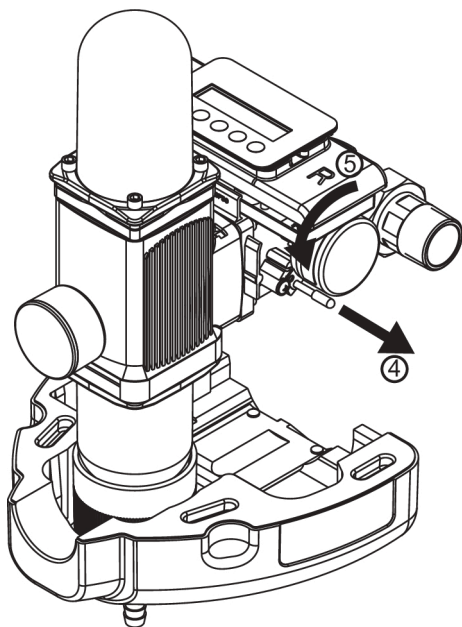

Fig. 7: Remove the red locking pin and rotate the motor
4. Remove the red locking pin (see Figure 7).
5. Turn the motor **counter-clockwise** through approximately 90 degrees ( $\frac{1}{4}$  of a turn; see Figure 7). It is not necessary to release any screws to do this.